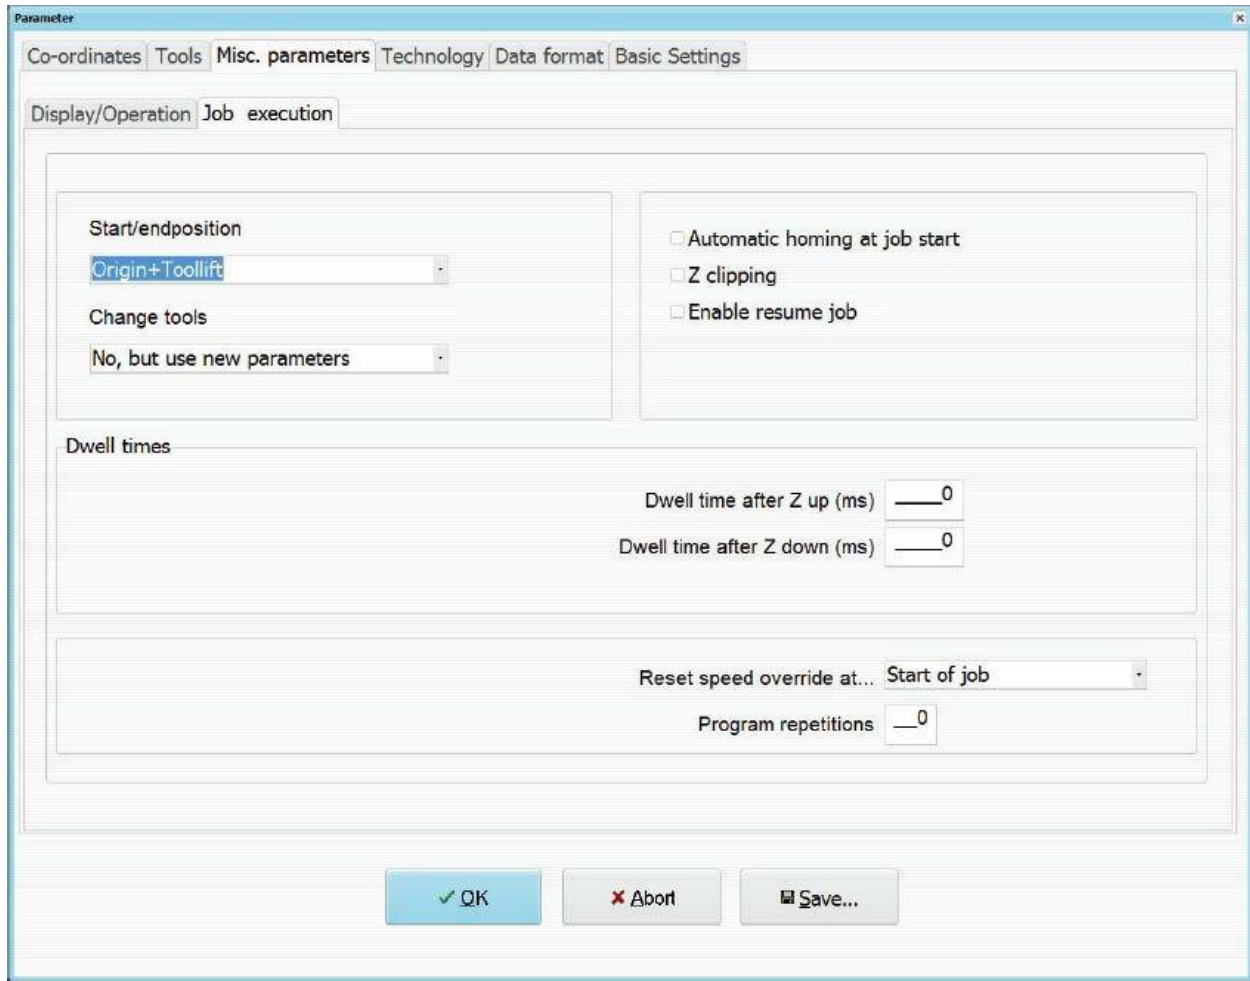

Fig. 2.108 Setting the tool start and end positions
7. Switch to the *Misc parameters* tab. In the *Start/End position* drop-down list, select *Origin + Tool lift*. The default lift is 10 mm (see figure 2.108).